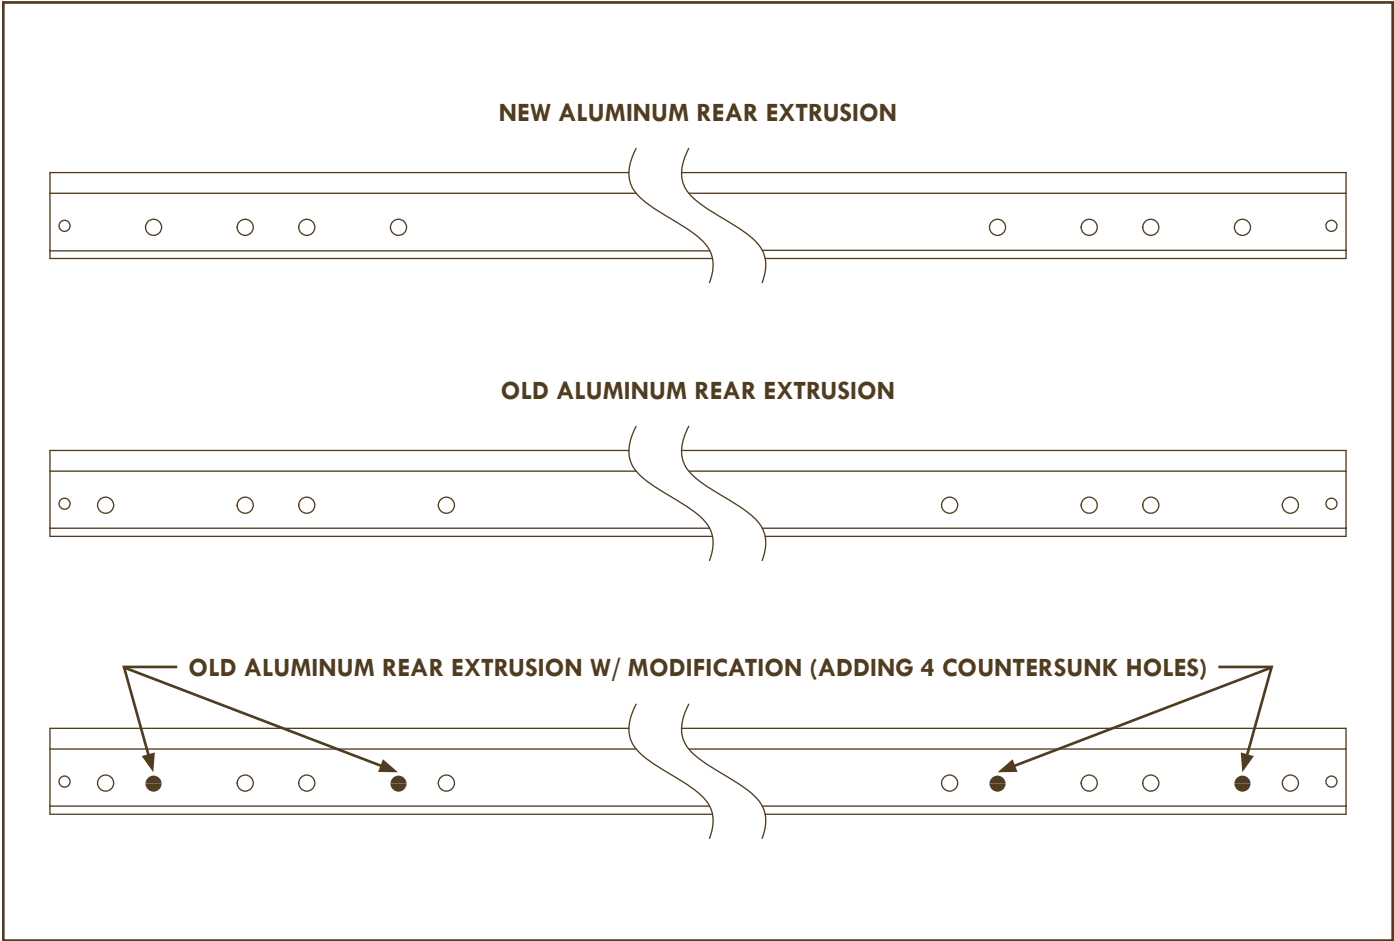

Figure 11. Modification of Aluminum Rear Extrusion
It is possible to modify existing Aluminum Rear Extrusion to fit the new Frameless Glass Hanger Bracket Assembly by adding four (4) countersunk holes. See Figure 11 below.